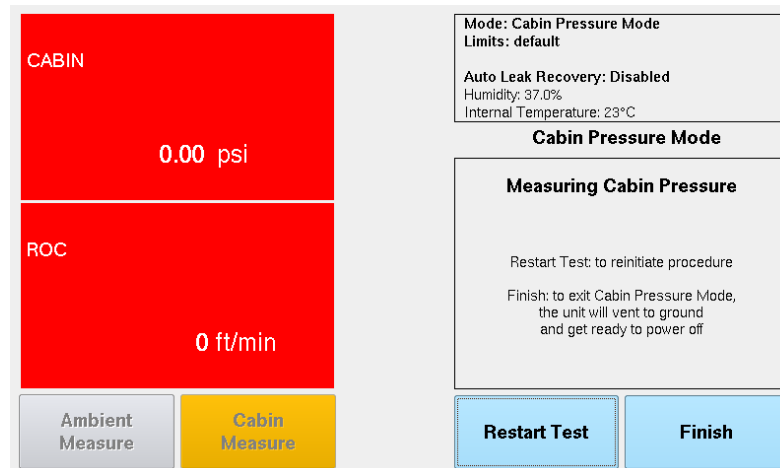

Figure G. 13 Cabin Pressure Mode – Measuring Cabin Pressure and Rate
9. Figure G.13 shows the screen for the cabin pressure mode on which the unit is monitoring the change in the cabin pressure and displays this value in unit of psi and ROC in ft/min.